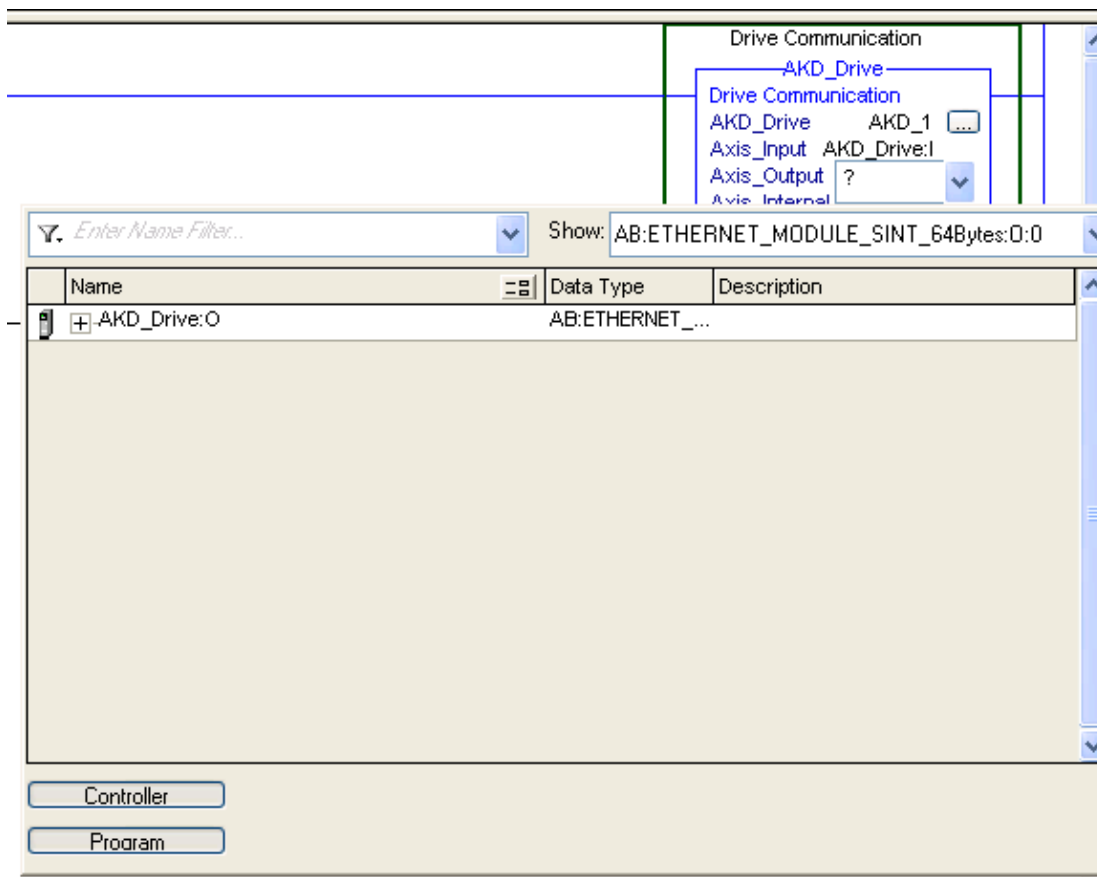

Figure 5-18: Axis Communication Output
5. Set the Axis_Input parameter to the input data of the axis for which you are setting up communication (Figure 5-18: Axis Communication Input). Double click the "?". A drop down box will appear. Select the input data tag that corresponds to the "ETHERNET-MODULE" object you created in the I/O Configuration of the project.
6. Set the Axis_Output parameter to the output data of the axis for which you are setting up communication (Figure 5-18: Axis Communication Output). Double click the "?". A drop down box will appear. Select the output data tag that corresponds to the "ETHERNET-MODULE" object you created in the I/O Configuration of the project.